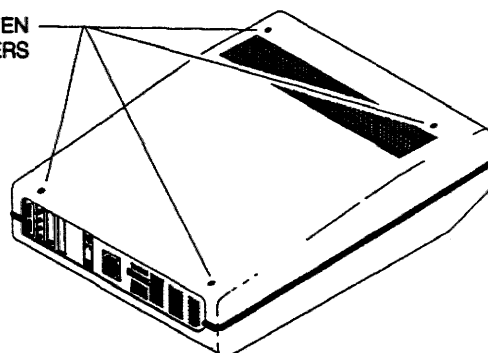

FIGURE S1-1.
- STEP 1. Remove the top cover. It is held on by four 1/4 turn fasteners on the top of the system near the front and rear. Refer to Figure S1-1.
- STEP 1. Remove the top cover. Refer to Section S1.1.1, Step 1, and Figure S1-1.